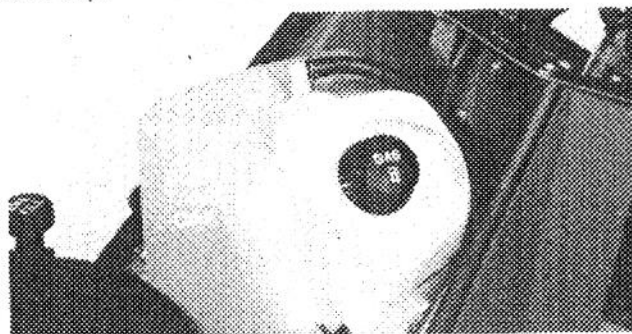

Figure 13
3. Remove cap from fuel tank and fill tank with leaded-regular gasoline (Fig. 13). Then install fuel tank cap.